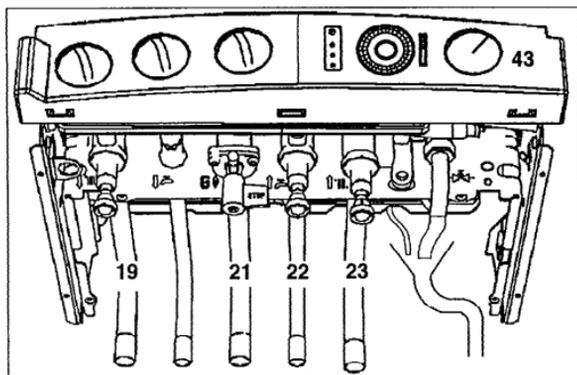

Fig. 15
- Open flow and return valves on the boiler.(19 and 23 fig. 15)
- Turn on the gas supply and boiler gas tap ( 21 fig. 15).